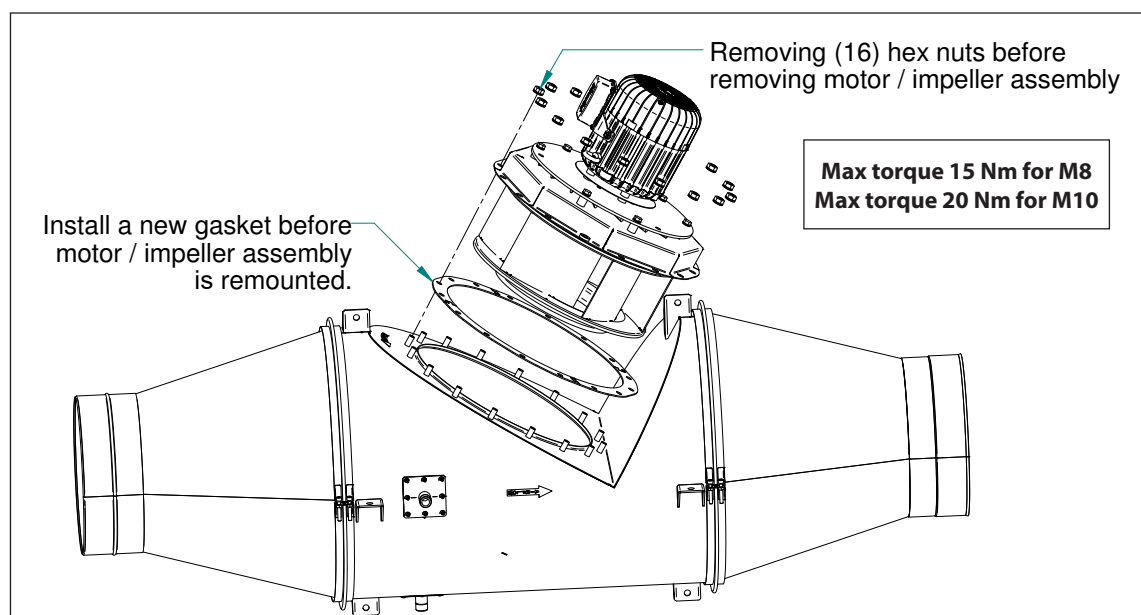

Fig. 12
Referring to fig. 12 below, follow these steps to open the CFIR inline fan so it can be cleaned and inspected:
5. Replace the motor and impeller assembly and tighten the hex nuts as specified in Fig. 12.